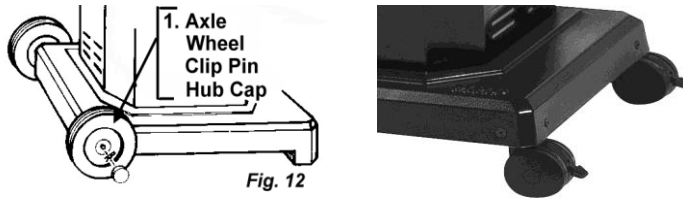

Fig. 12
**OPTION: For Portable Base Only A-LC & A-NC: (Fig. 12)**
1. Attach the wheels by slipping the axle through the base, slide the wheels on and secure with the axle clips. Finish by snapping the hubcaps on before standing unit upright. For units with casters, place caster stem into stem opening of the portable base, press and snap into place. (Fig. 12)